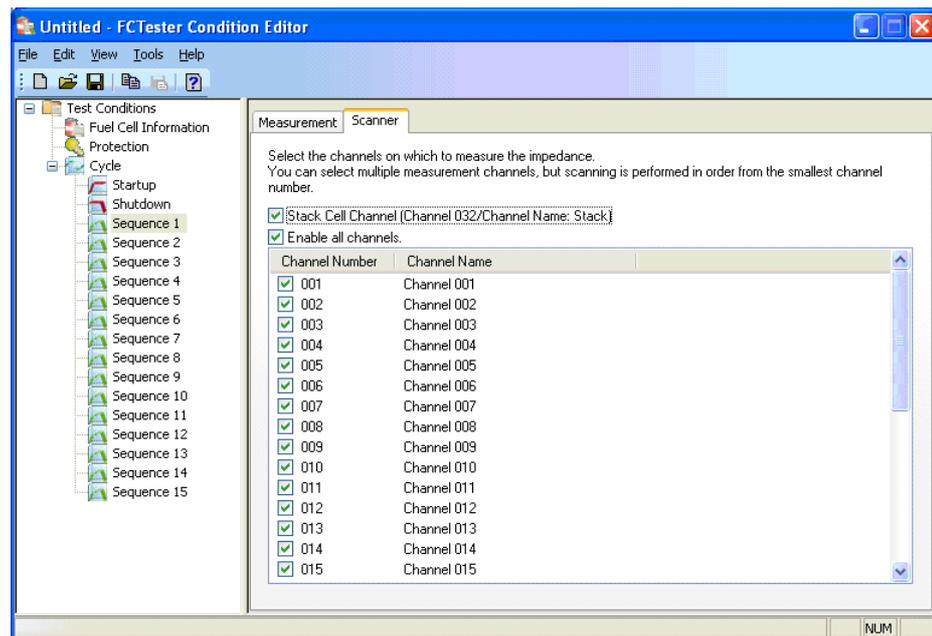

Fig.4-12 Scanner tab
- The voltage data of a channel that is enabled using the Configuration Tool is enabled even if the channel is not selected in the Scanner tab of Fig.4-12.